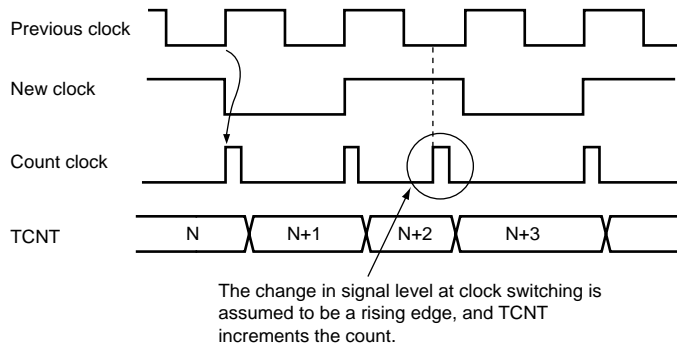

Figure 12.25 Internal Clock Switching and TCNT Operation
3. Depending on the timing, TCNT may be incremented by a switch between different internal clock sources. When TCNT is internally clocked, an increment pulse is generated from the rising edge of an internal clock signal, that is divided system clock (ϕ). Therefore, as shown in figure 12.25 the switch is from a low clock signal to a high clock signal, the switchover is seen as a rising edge, causing TCNT to increment.